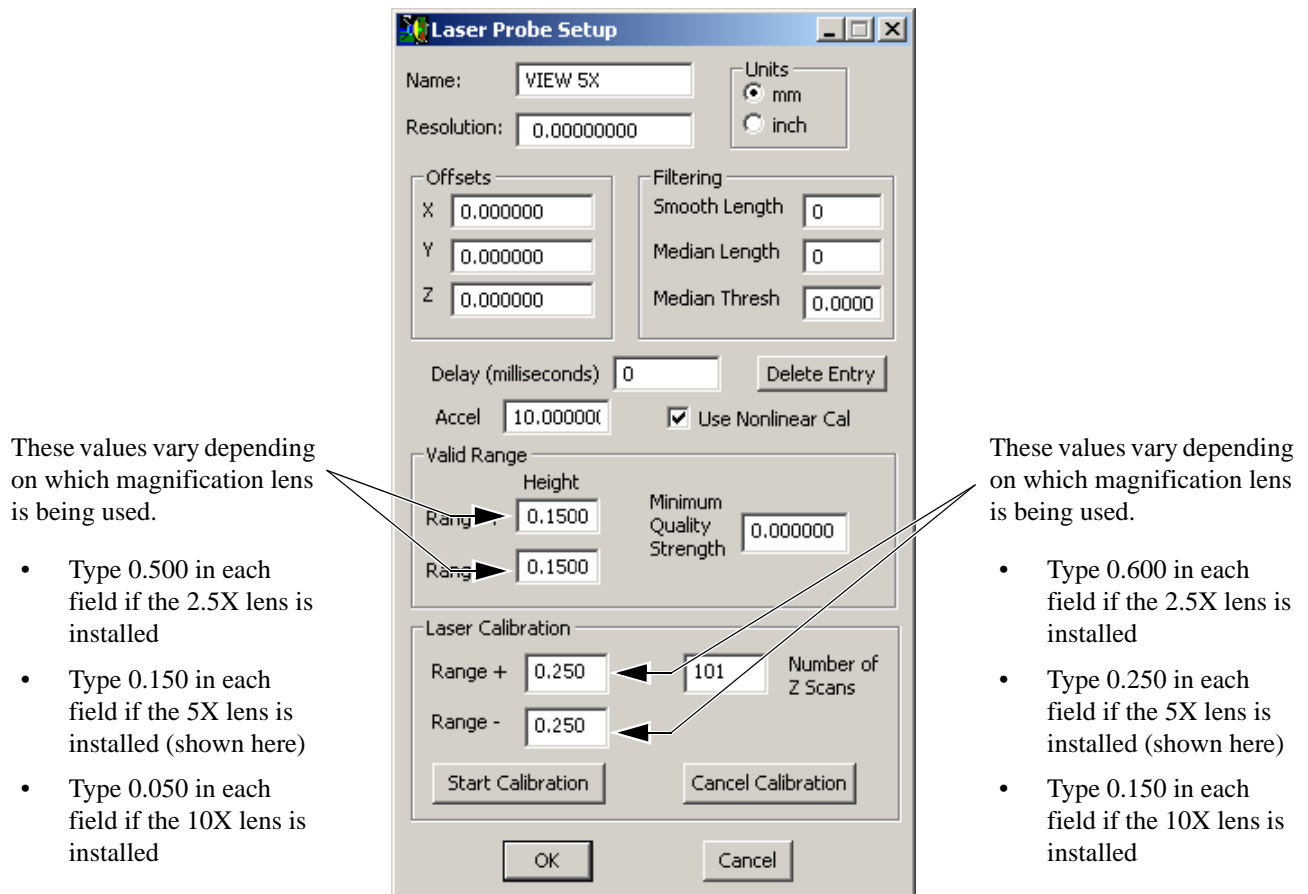

Figure B-2 Laser Probe Calibration Window
8. Select **Setup / Laser Probes => New Probe** in the VMS main menu to display the Laser Probe Calibration window (see Figure B-2).
9. Type a descriptive name for the currently installed lens (for example, View 5X) in the **Name** field and edit the other fields to match those shown in Figure B-2. When finished, click **OK**.